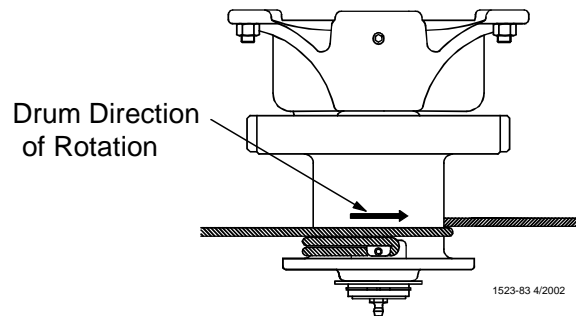

Figure 11. Power Winch Drum Rotation
3. Turn the winch drum one full revolution. Guide the cable against the flange at the bottom of the winch drum. The cable must not wrap over itself on the drum, but should be wrapped as close as possible to each previous wrap. See **Figure 11**.